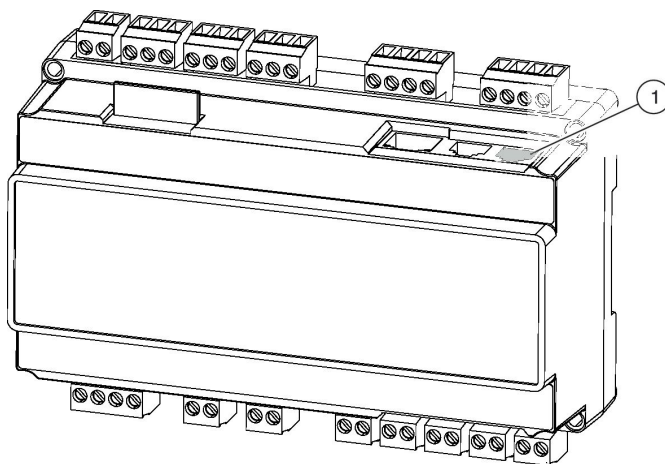

Fig. 45: Modbus RS485 interface
- ▶ Use the Modbus-RS485 interface (Fig. 45 /1) to connect the X-CUBE control master to a remote terminal unit (RTU).